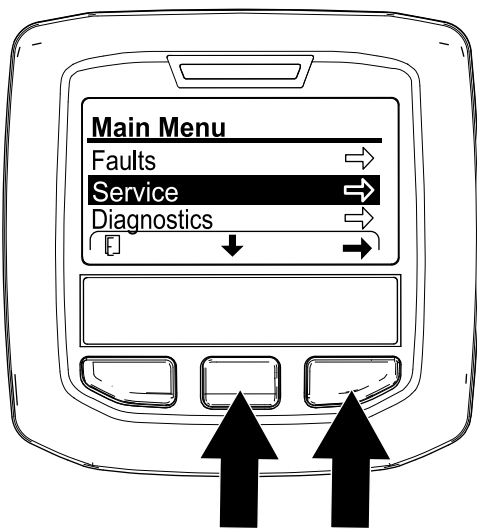

Figure 130
2. In the InfoCenter, navigate to the MAIN MENU (Figure 130).